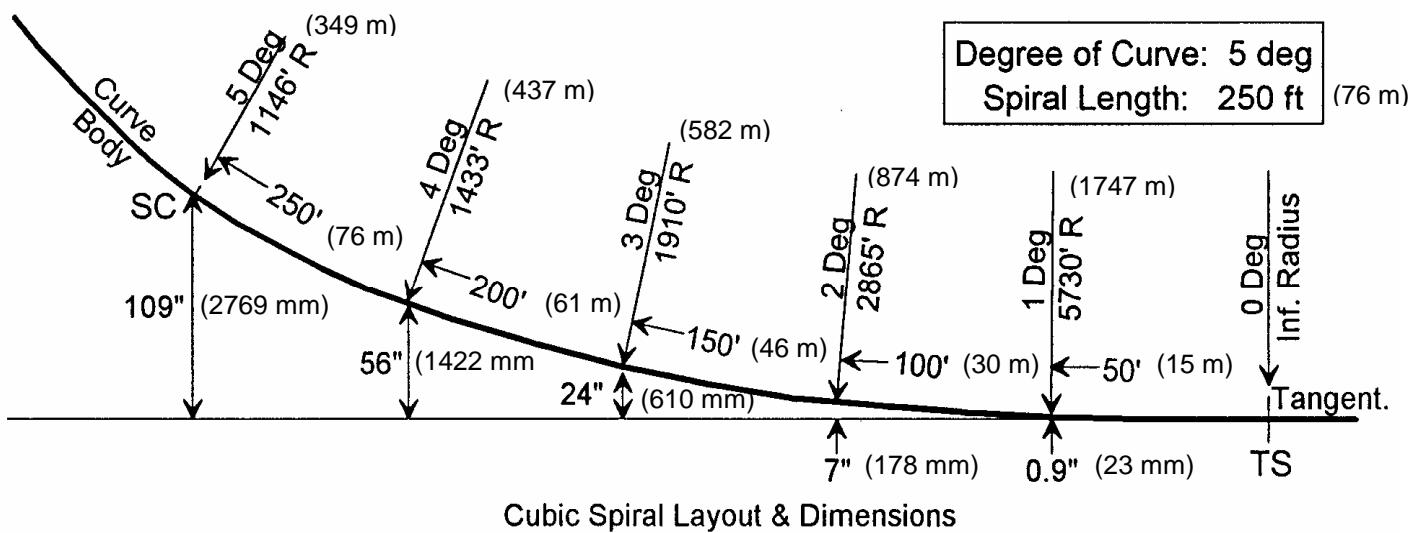

Figure A-7 Cubic Spiral Layout & Dimensions
A Spiral, or Transition curve, in its most general sense is any curve which gradually changes in curvature and direction from tangent track to curved track. It can also occur between two curves of different curvature. In practice, generally spirals are Cubic Spirals. They are called this because the distance away from a continuation of straight track varies with the cube of the distance along the track. Consider the enlarged Spiral shown in Figure A-7:
four (4) degrees within the body of the curve, the same as measured before. But unlike the curve without spirals (Figure A-3), the change from tangent to curve is not instantaneous. Rather, it occurs over the spiral length. The Offset (degree of curvature) increases in a straight line along the spiral from zero to the curve maximum Offset. This increase was also indicated in Figure A-7, the cubic spiral layout. Likewise, during the spiral out of the curve, the Offset decreases in a straight line back to zero. Notice also that from this graph it is very easy to pick out the transition points (TS, SC, CS and ST).